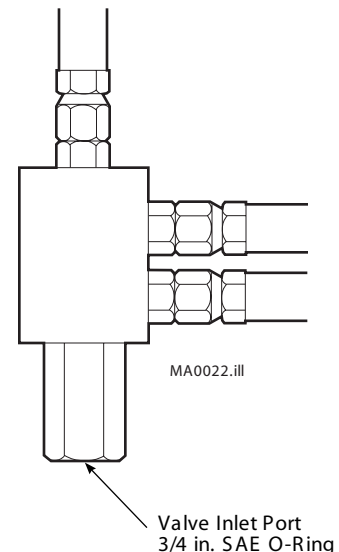

Figure 2. Valve Inlet Port.
*Valve inlet port is 3/4 in. SAE O-ring. See Figure 2.